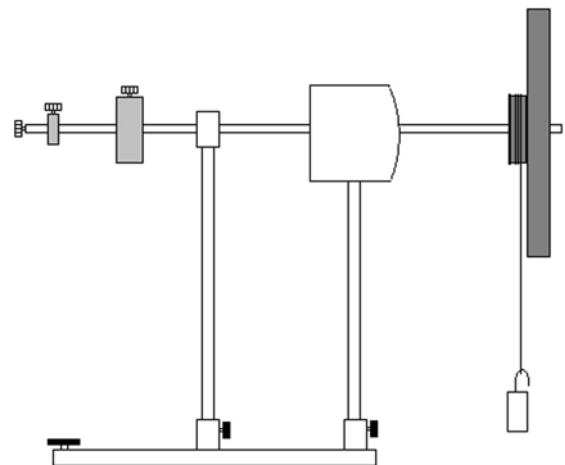

Fig. 1: Determining the moment of inertia of the disc
- Set up the gyroscope as shown in Fig. 1 and balance it.